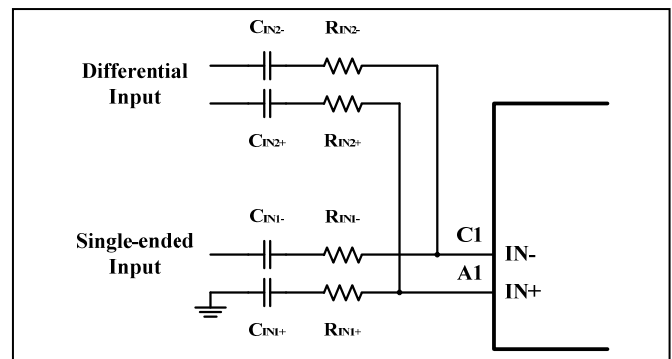

Figure 10 Summing Differential Input and Single-Ended Input Signals
Figure 10 shows how to sum a differential input signal and a single-ended input signal. Ground noise may couple in through IN- with this method. It is better to use differential inputs. The corner frequency of the single-ended input is set by C_{IN2} , shown in Equation (8). To assure that each input is balanced, the single-ended input must be driven by a low-impedance source even if the input is not in use.